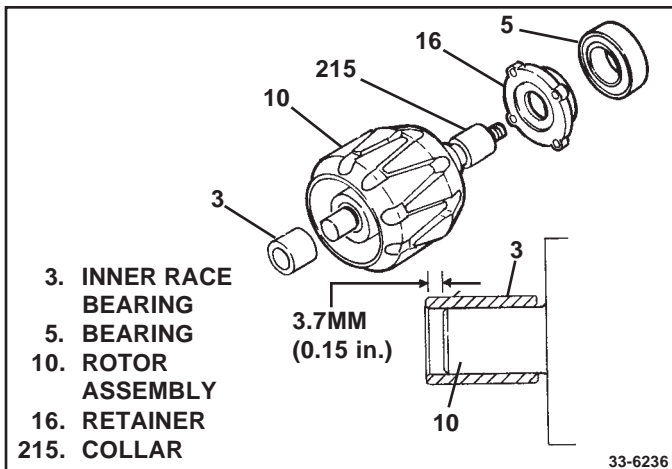

Figure 25. Rotor Assembly
1. Press inner race for rectifier end bearing (3) onto short end of rotor shaft. Stop when race is 3.7 mm (.15 in.) above end of shaft. (See Fig. 25)
2. Press inside collar (215) onto rotor shaft until collar is against shoulder on rotor (10). Place retainer plate (16) onto collar (flanged side of retainer will face away from rotor, toward bearing). Using open tube that bears only on inner race of bearing, press new DE bearing (5) onto rotor shaft until bearing is against collar.